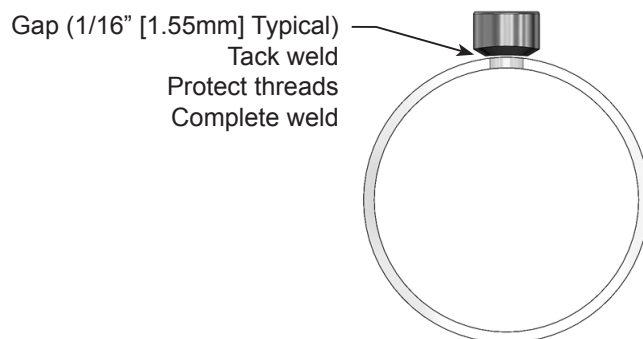

Figure 3. Weld Gap
- Using the appropriate weld gap (1/16” [1.5mm] typical), tack weld the mounting flange into position (see Figure 3).